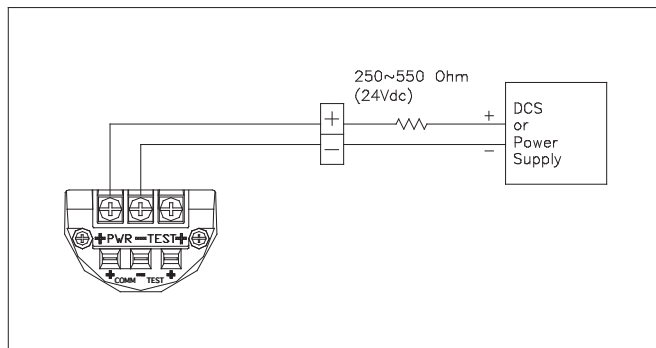

Figure 4-2 Wiring the 3200 Pressure Transmitter
- NOTE: Do not power the transmitter with high voltage (AC). It can damage the transmitter.
5. You must connect a 250~550 Ohm Resistor in Current Loop (between Power Supply and Transmitter) for HART® Communication. See Figure 4-2.